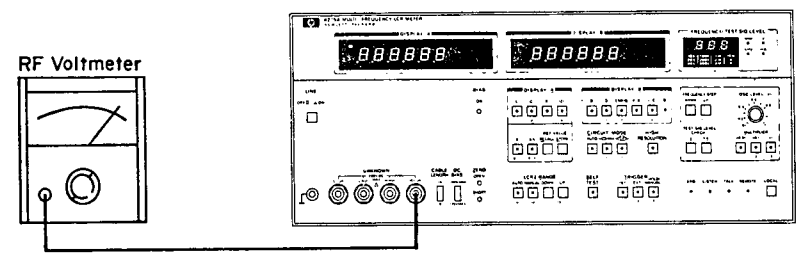

Figure 4-2. Test Signal Level Variable Range Test Setup.
1. Connect BNC to BNC cable to 4275A UNKNOWN HCUR terminal and to RF voltmeter input as shown in Figure 4-2.